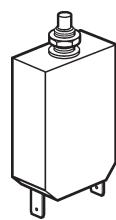

Fig. 23
** Note! The wiring diagrams as specified in these instructions, fig. 23 and 24, show the preferred protection of the Control Unit and the Control Panel. If the boat does not have a separate fuse box, Volvo Penta resettable 8A breaker may be used. Breaker 966689 is not explosion proof and must therefore not be used in gasoline engine rooms.